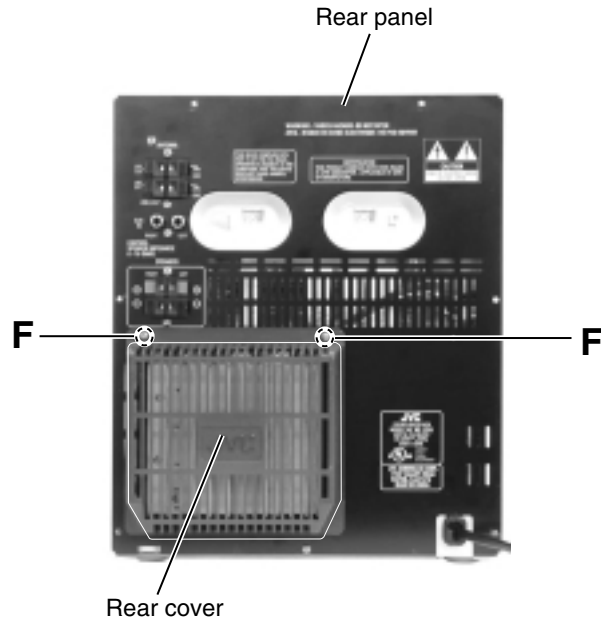

Fig.14
**■Removing the rear cover and the rear panel (See Fig.14 to 17)**